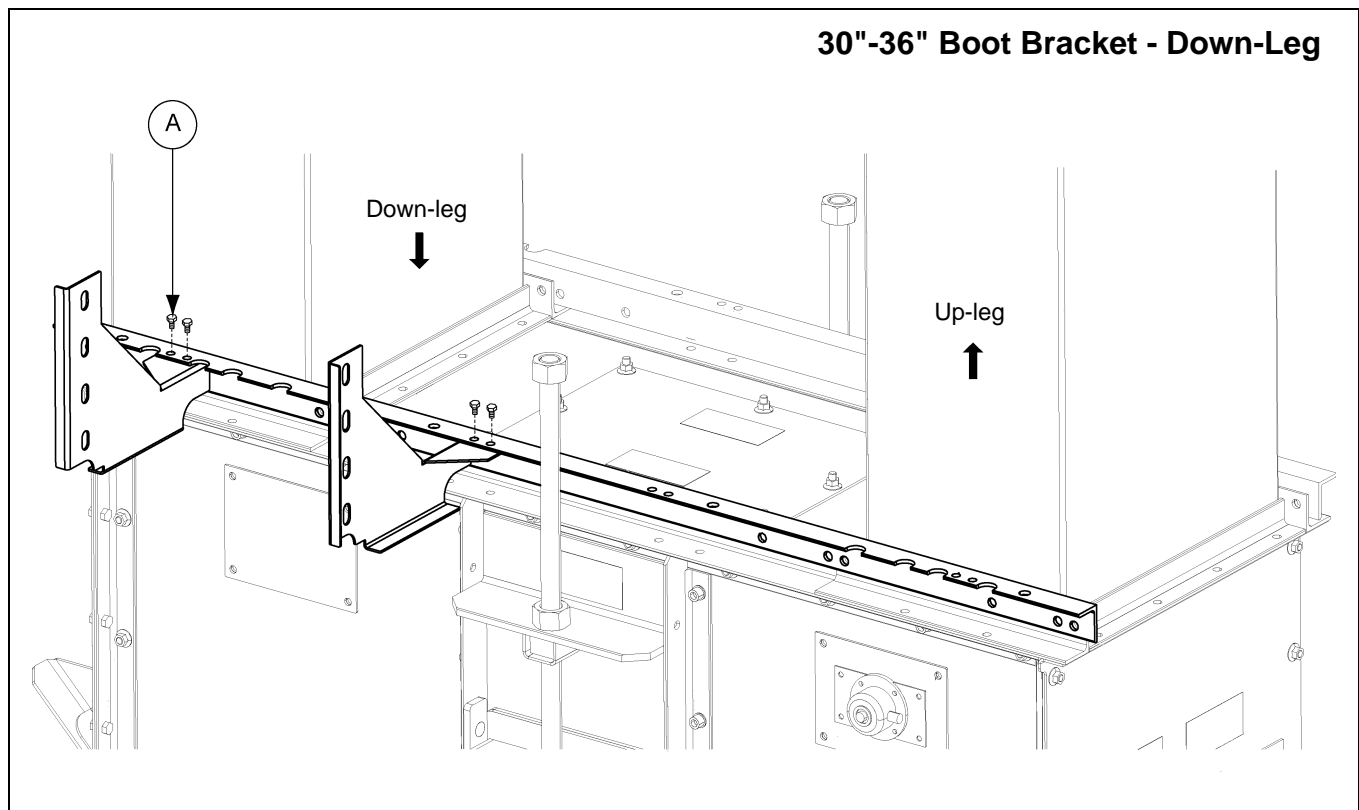
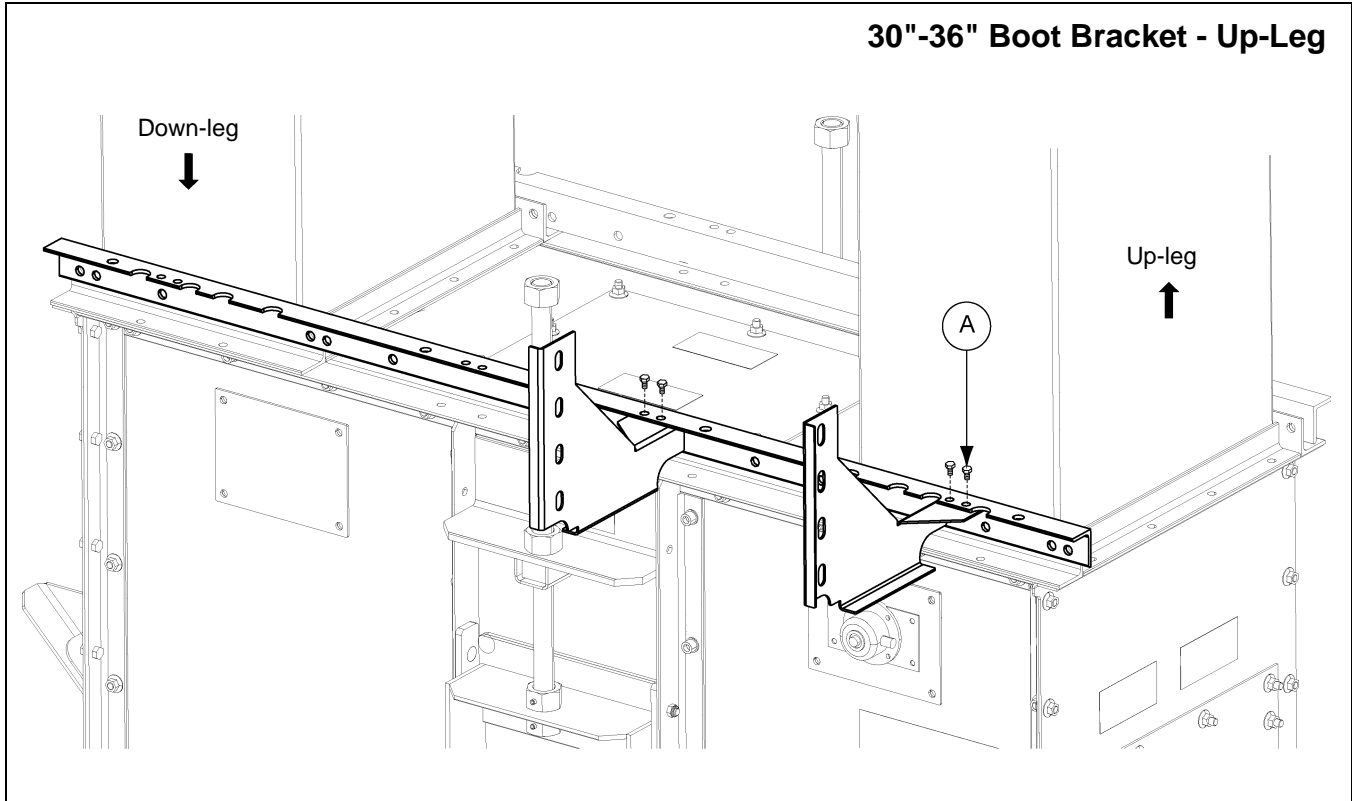

Figure 6C 30\"-36\" Boot Bracket Down-Leg
Figure 6D 30"-36" Boot Bracket Up-Leg
1. Use the holes indicated based on bucket elevator size in Figure 6C and attach ladder support brackets to boot tie angle using 3/8" x 1" hex bolts (S-7469) (A). Remember to double check if the ladder should start on the up-leg side or the down-leg side. (See Figure 6C below and Figure 6D on Page 25.)
- a. **30"-36" Down-Leg Bracket:** Use 3/8" x 1" hex bolts (S-7469) (A) to attach the ladder support brackets to the boot tie angle using the holes indicated in Figure 6C. Note the outer bracket uses the first set of holes on the outside.
- b. **30"-36" Up-Leg Bracket:** Use 3/8" x 1" hex bolts (S-7469) (A) to attach the ladder support brackets to the boot tie angle using the holes indicated in *Figure 6D*. Note the outer bracket uses the first set of holes towards the outside.